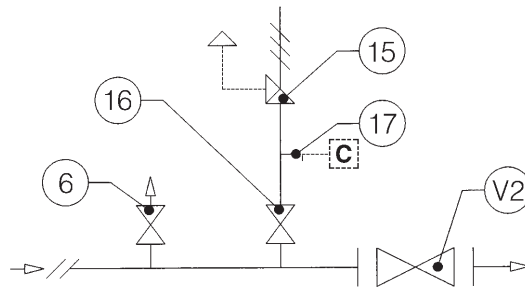

Fig. 7
3.1.2 INSTALLATION WITH ON/OFF VALVE (FIG. 7)